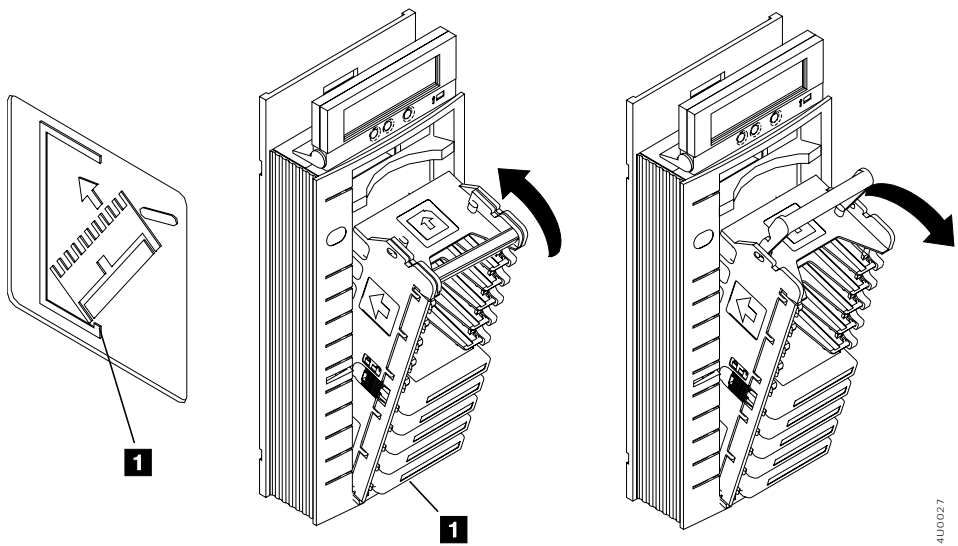

Figure 15. Inserting and Removing the magazine from the ACF
Figure 15 shows how to insert or remove the magazine from the ACF. Use two hands to load the magazine in the ACF as follows:
2. Insert the lower front of the magazine into the ACF as shown in Figure 15 on page 54 so that the front of the magazine is inside the ACF lip **1**.